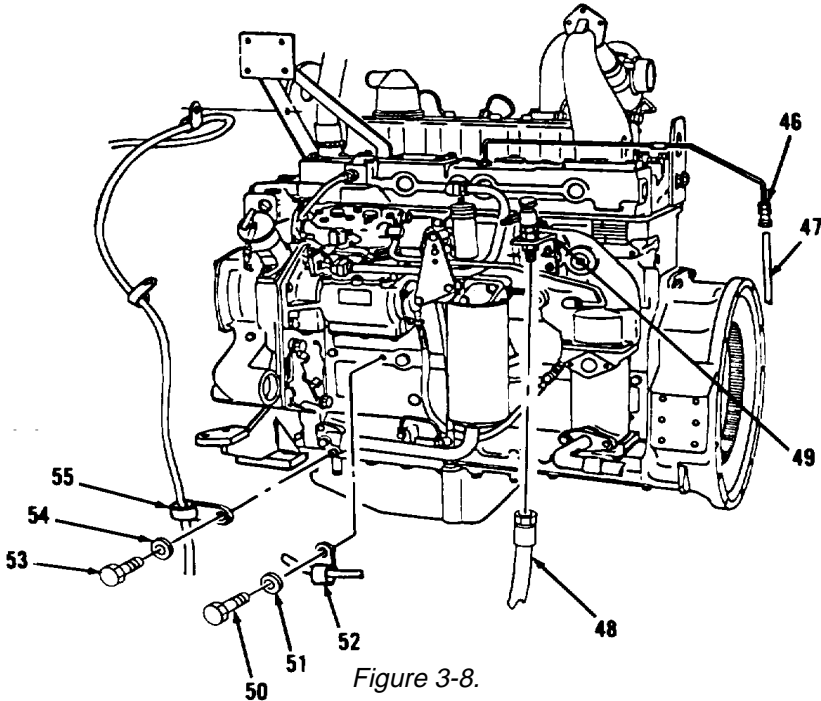
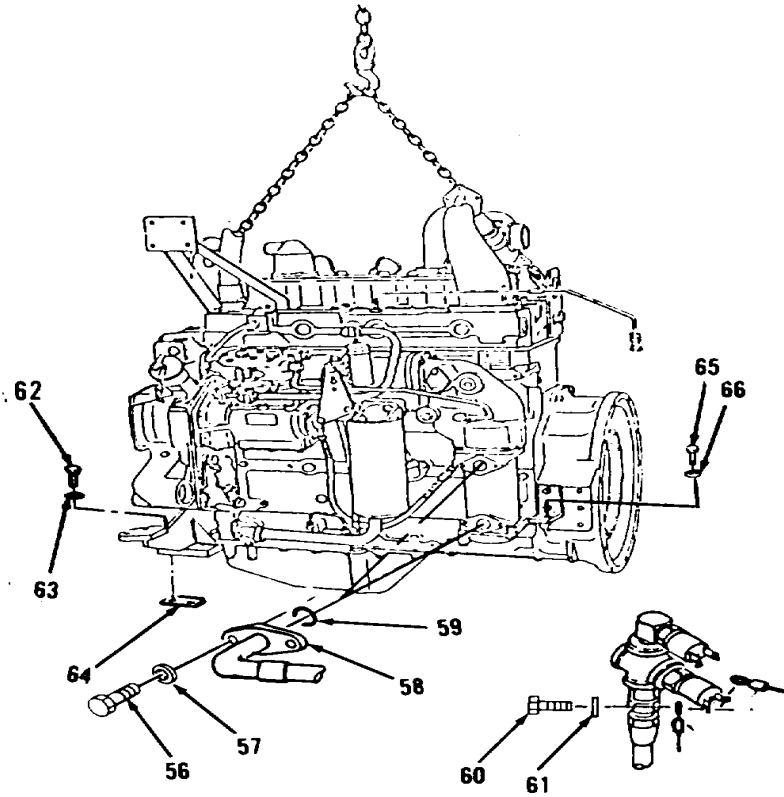

Figure 3-8.
Figure 3-9.
- 29. Disconnect tube assemblies (46 and 47, Figure 3-8) from rear of engine.
- 30. Disconnect hose (48) and clip from sampling valve assembly, (49) from engine oil cooler.
- 31. Remove bolt (50), washer (54) and clip (52) from lower, left side of engine.
- 32. Remove bolt (53), washer (54) and clip (55).
- 33. Remove four bolts (56) and washers (57, Figure 3-9).
- 34. Disconnect two hose assemblies (58) from transmission oil cooler.
- 35. Remove and discard two preformed packing (59).
- 36. Remove four screws (60) and washers (61), tag wires.